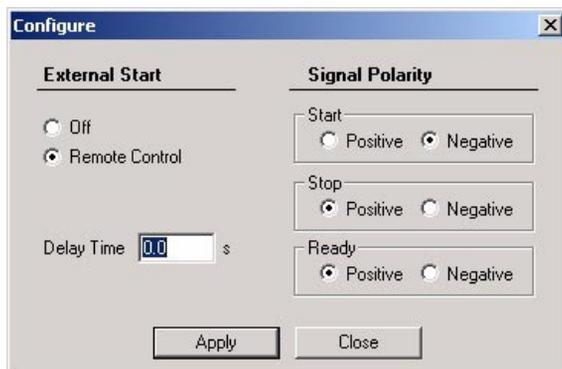

Figure 7 Settings for remote control
- c Set up the remote control as shown in Figure 7.